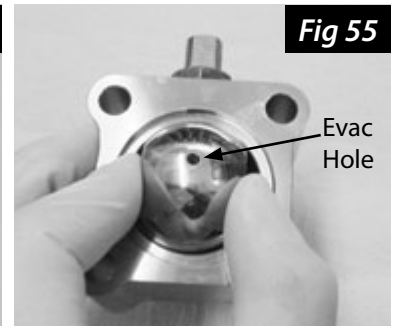

Fig 55
9. Align the valve stem with the notch in the ball and carefully drop the ball into the valve center section, being sure the evac hole is facing up (Fig 55).